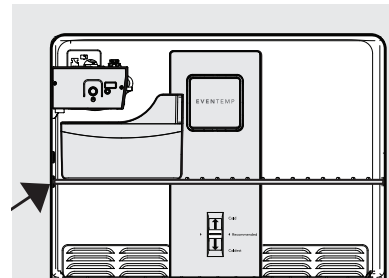

Figure 11
12. Reinstall the freezer shelf in the lower position. Place the ice container on the shelf. See Figure 11.